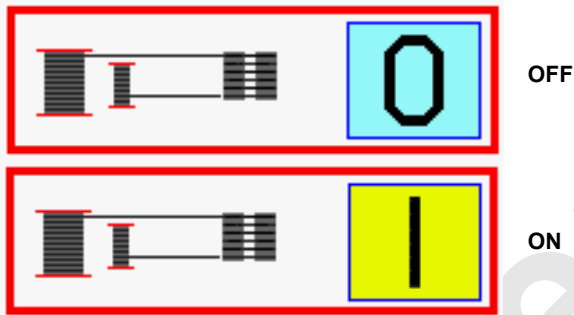

FIGURE 4-42
See Figure 4-42 and Figure 4-43 in the following procedure.
2. In **level 2**, use the select buttons to enter selected drum screen options. Select rigging winch data box (Figure 4-42).
2. In **level 2**, use the select buttons to enter selected drum options screen. Select rigging winch data box (Figure 4-42).